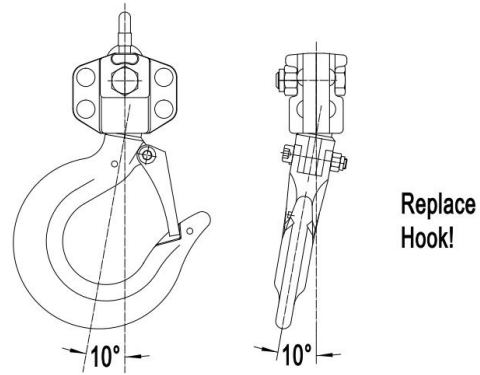

Figure 5
- The vertical angle at the neck of the hook reaches  $10^\circ$  (see Figure 5).